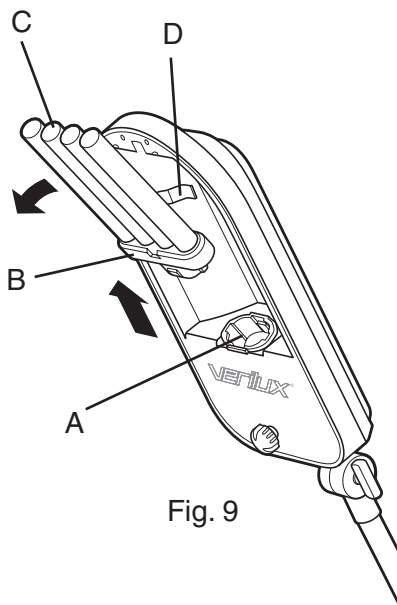

Fig. 9
3. Firmly hold bulb base (B) and pull bulb (C) from the socket (A) in an outward motion. (Fig. 9)